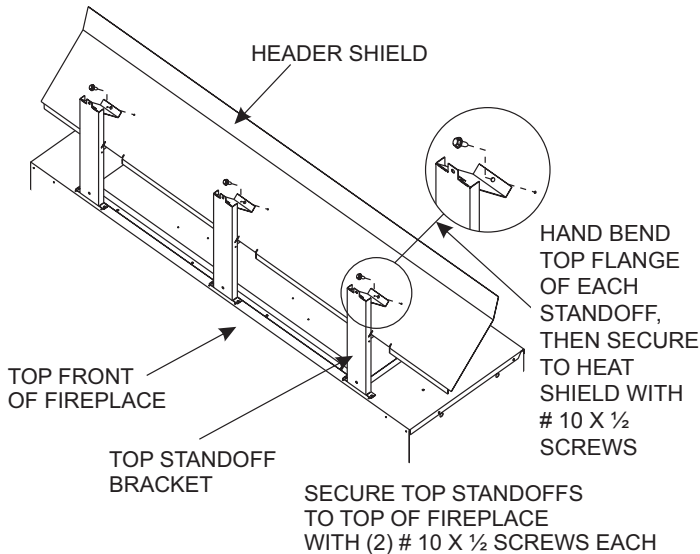
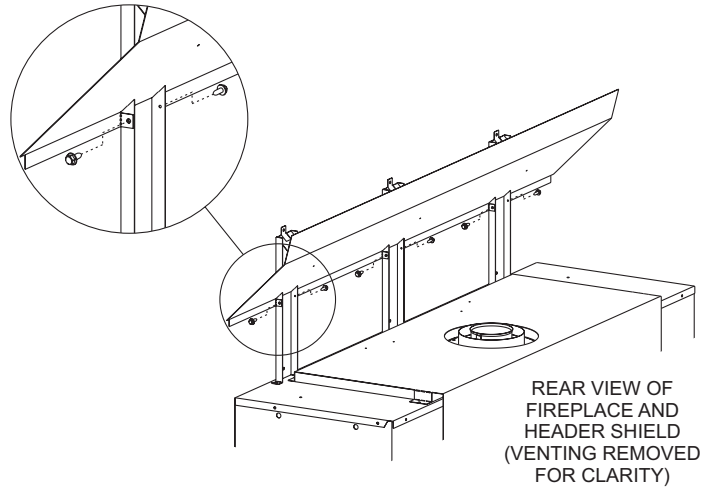

Figure 27
Figure 28
2. Install the **first** Top Standoff and Header Shield assembly to the top of the fireplace and framing header. See Figure 27. Install the **second** Top Standoff and Header Shield assembly to the top of the fireplace and framing header. See Figure 28. Next, connect the overlapped ends of the two header shields, and secure them together using the provided (3) #10 x 1/2 Hex Head screws.
3. Attach three middle mount framing brackets to the top front edge of the fireplace. These brackets support the supplied non-combustible board above the fireplace. Preset depth to suit facing material (flush or 1/2 inch set back depths). See Figure 27.